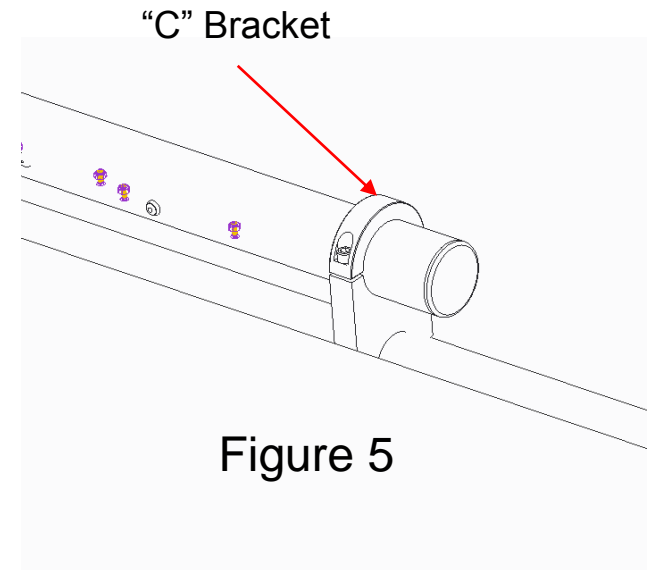

Figure 5
- C. Assemble two "C" brackets with cap screws as shown for both the Left & Right hand side. See Figure 5. Do not fully tighten at this time.